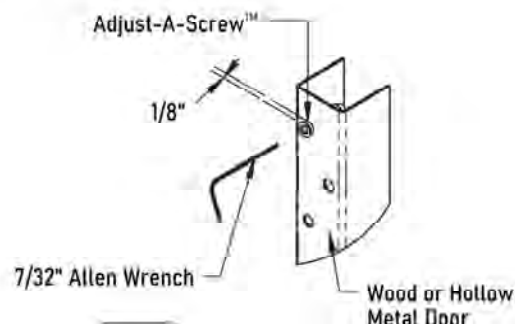

Fig. 4
4. Place a $7/32"$ Allen wrench in opening of Adjust-A-Screw and turn Adjust-A-Screw into hole while keeping screw properly aligned (Fig. 4).